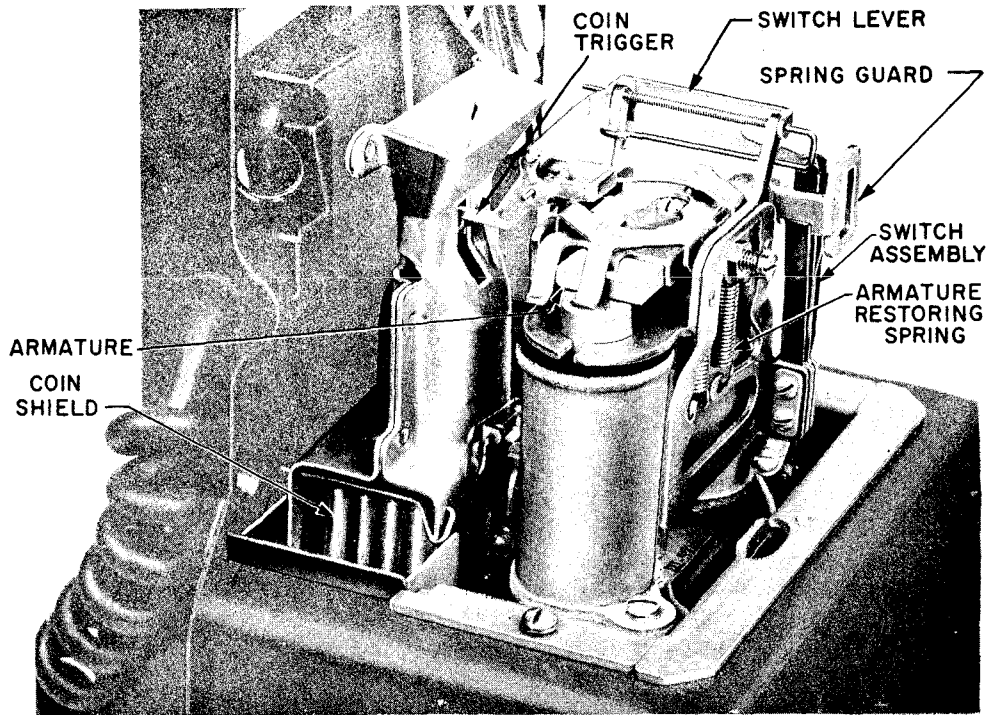
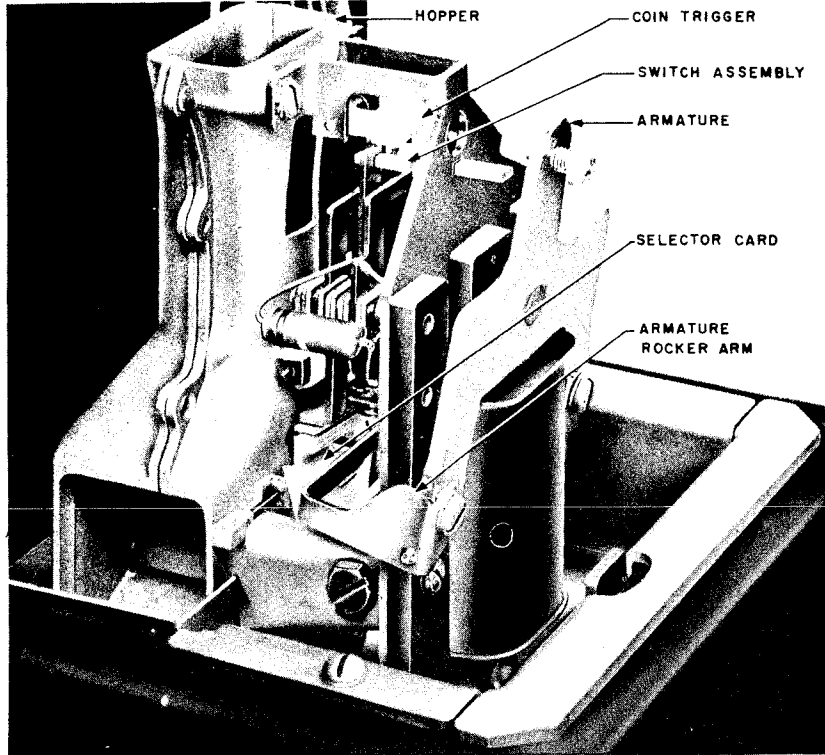

Fig. 6 – Prepay Mechanism Unit, 2-coil Coin Relay
Fig. 8 — Prepay Mechanism Unit, Single-coil, Slow-release Coin Relay
6.01 In prepay service a deposit is required before dial tone is received or the local operator answers. Deposits are refunded if the call is not completed. The coin-relay assembly has a coin trigger which extends into the coin hopper above the coin trap (see Fig. 6 and 8). The first coin entering the hopper forces the trigger down to a tripped position. Tripping of the coin trigger operates contacts on the coin-relay switch assembly, preparing the telephone circuit for out calls.
held in its horizontal position or released in relation to the position of a coin vane. The coin vane is under the control of the coin relay which is mounted on the mechanism base, Fig. 6 and 7, or on the coin hopper, Fig. 8 and 9.
6.12 The single-coil coin relay shown in Fig. 8 consists of a nonpolarized armature and relay coil designed for fast operation and slow re-